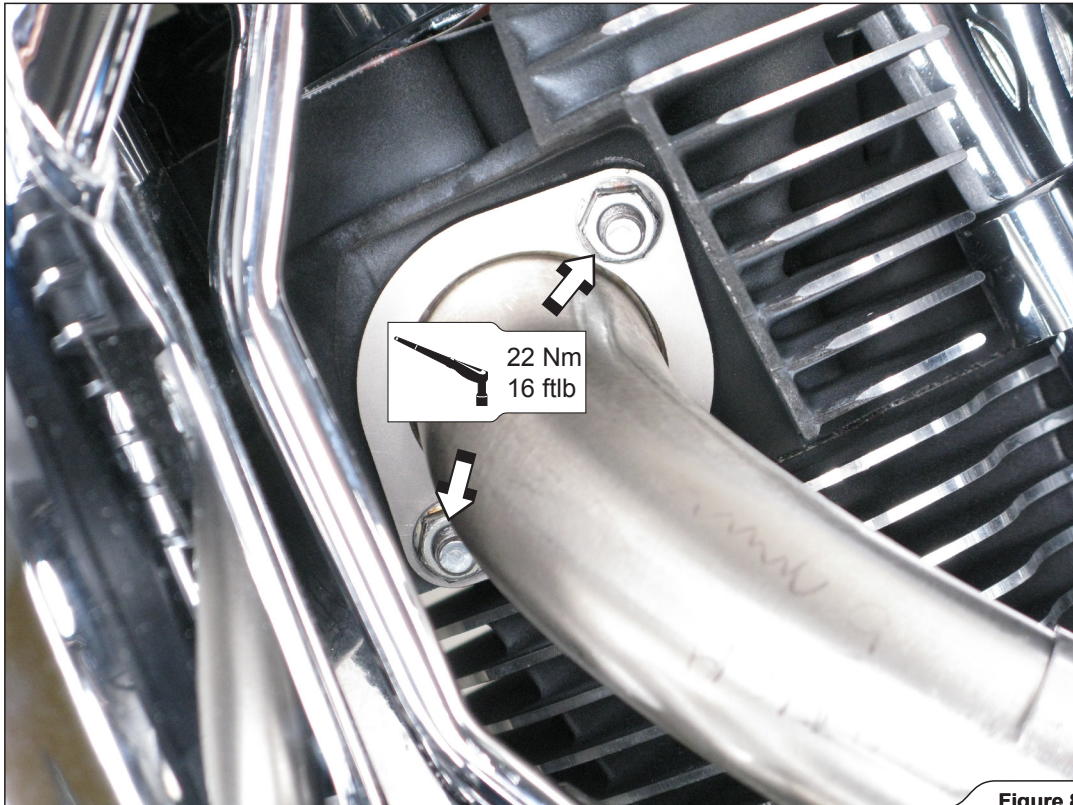

Figure 8
- Align and set the headers and collector. Tighten both headers' flanges to the specified torque (**Figure 8**).